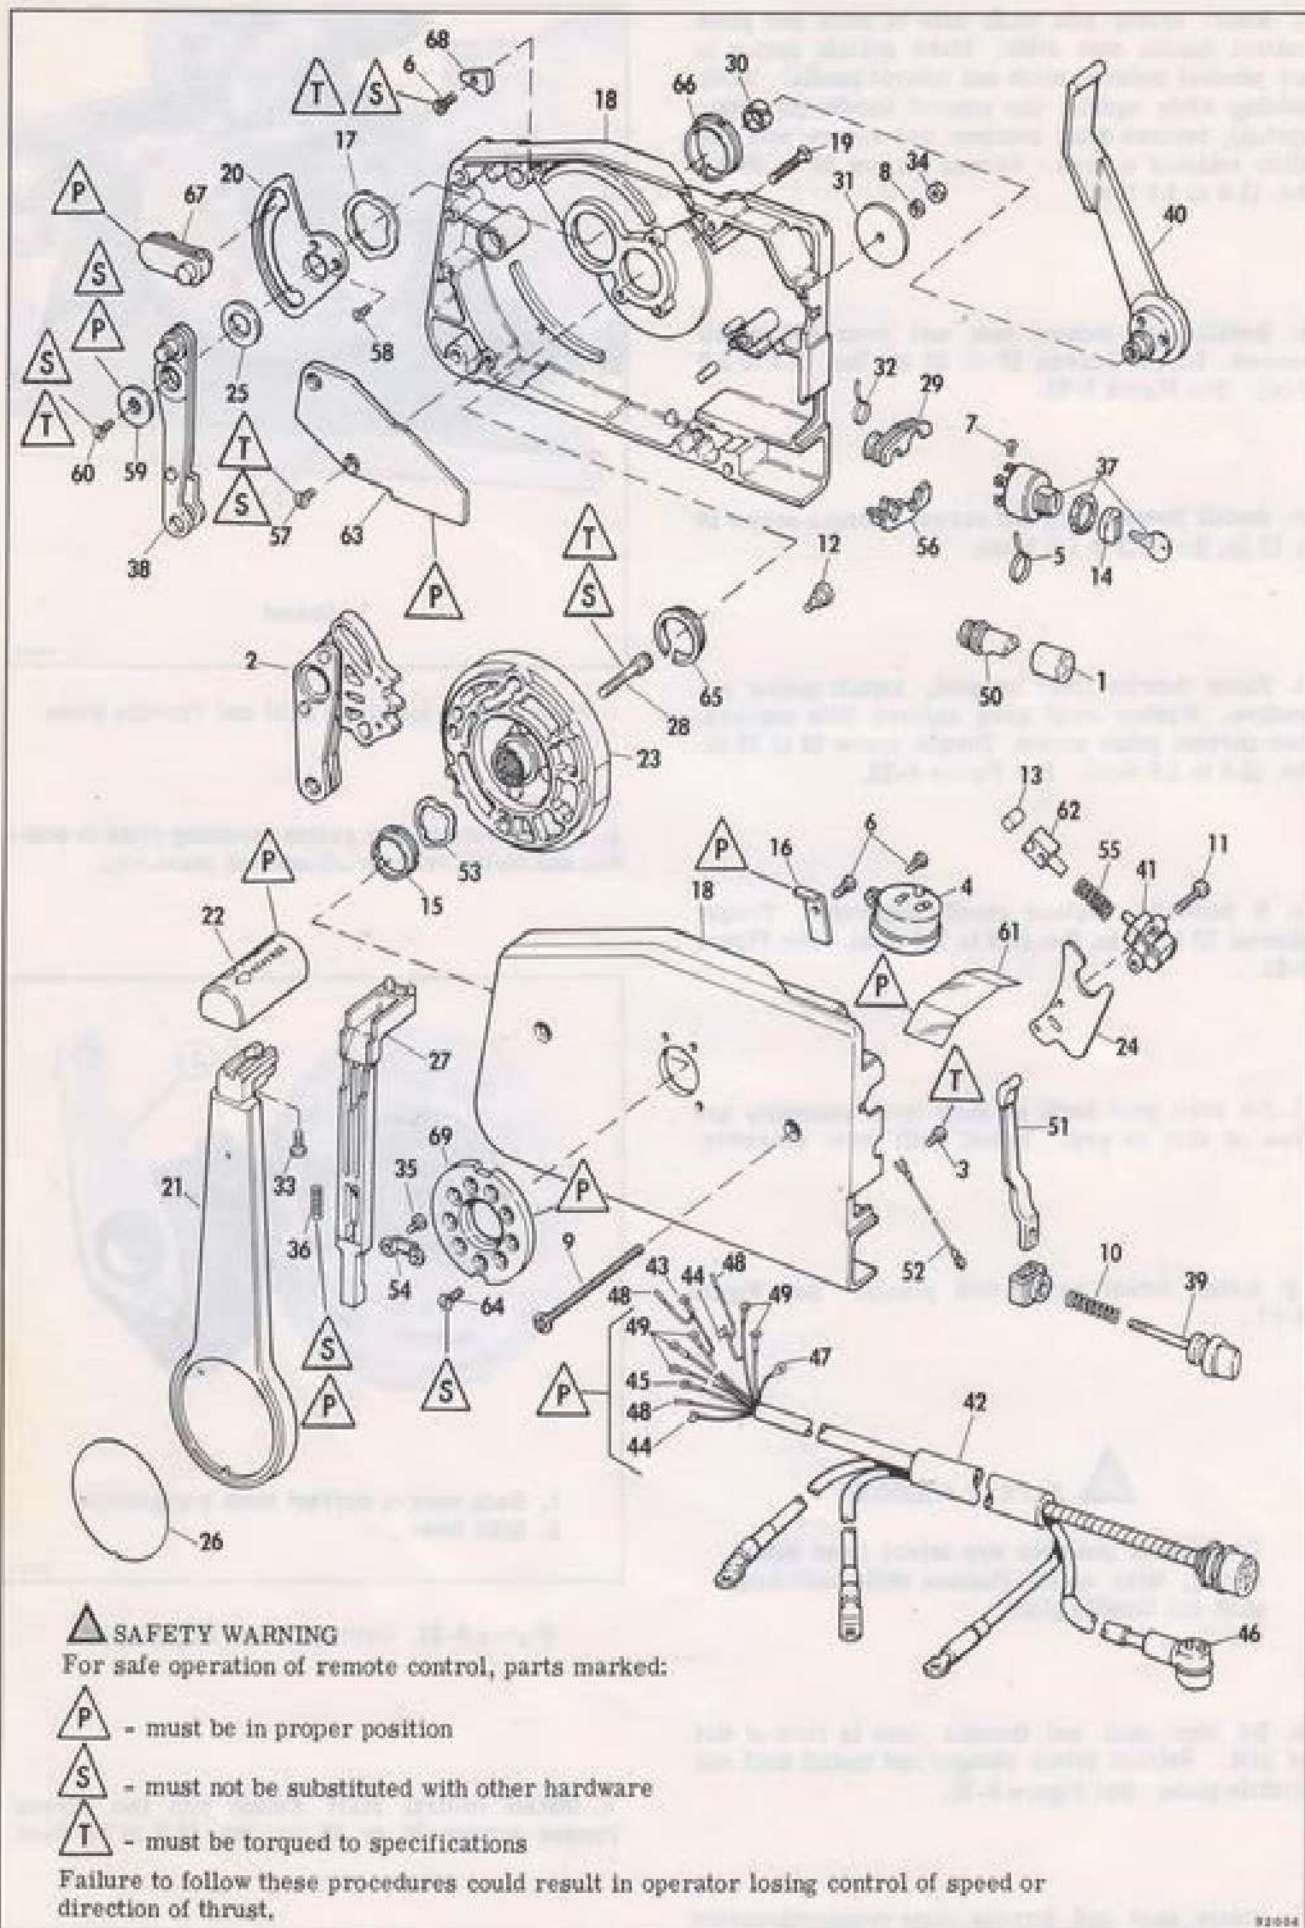

Figure 8-22. Remote Control Components
Failure to follow reassembly instructions could result in operator losing control of speed or direction of thrust. See Figure 8-22.
b. Install shift lockout cam and lever and install screws. Torque screws 25 to 35 in. lbs. (2.8 to 3.9 N-m). See Figure 8-22.
d. Place throttle lever on post. Install screw and washer. Washer must have tapered side outward. Use correct patch screw. Torque screw 25 to 35 in. lbs. (2.8 to 3.9 N-m). See Figure 8-22.
e. If removed, replace plastic separator. Torque screws 10 to 15 in. lbs. (1.2 to 1.6 N-m). See Figure 8-22.
## Key to Figure 8-22
b. Remove index plate. See Figure 8-22.
c. Remove index plate. See Figure 8-22.